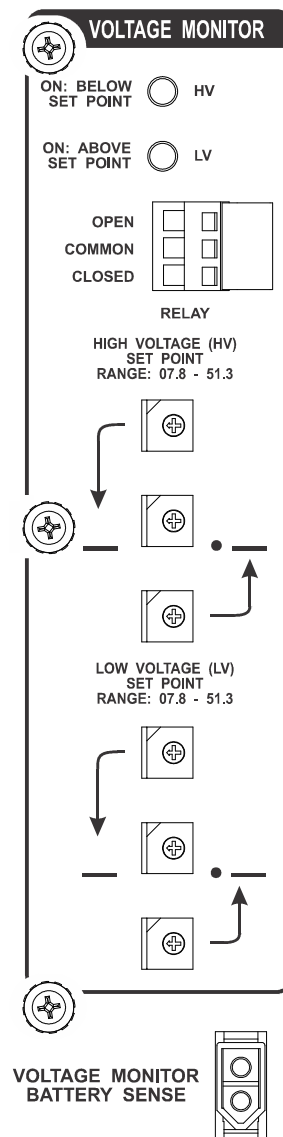

Figure 10.1
The ELC-24/30-CVM-D battery charger includes an integrated voltage monitor/alarm that monitors the DC voltage. Unless the optional VOLTAGE MONITOR BATTERY SENSE input available on the front of the charger is remotely wired to the terminals of the battery, the DC voltage is monitored internally at the charger output. If the DC voltage rises above the HIGH VOLTAGE (HV) SET POINT setting, the green BELOW HV SET POINT LED indicator is turned off and the Form C, dry contact alarm relay is actuated. If the DC voltage falls below the LOW VOLTAGE (LV) SET POINT setting, the green ABOVE LV SET POINT LED indicator is turned off and the Form C, dry contact alarm relay is actuated. The voltage set point switches, LEDs, relay terminals, and optional battery sense input are accessible on the front of the charger (see Figure 10.1).
The HIGH VOLTAGE (HV) SET POINT setting is adjustable with three (3) rotary switches and the LOW VOLTAGE (LV) SET POINT setting is adjustable with three (3) rotary switches, all of which are available on the front of the charger (see Figure 10.1). For both settings, the top switch sets the tens of volts, the middle switch sets the volts, and the
The voltage monitor/alarm includes an optional VOLTAGE MONITOR BATTERY SENSE input available on the front of the charger (see Figure 10.1). If the VOLTAGE MONITOR BATTERY SENSE input is left disconnected, the DC voltage is monitored internally at the charger output. The VOLTAGE MONITOR BATTERY SENSE input can be remotely wired to the terminals of the battery to monitor the voltage at this point. The voltage monitor/alarm detects when the VOLTAGE MONITOR BATTERY SENSE input is connected to the battery terminals and automatically monitors this DC voltage instead of the voltage at the charger output. Please refer to the wiring diagram in Section 15 for the VOLTAGE MONITOR BATTERY SENSE input connector detail.